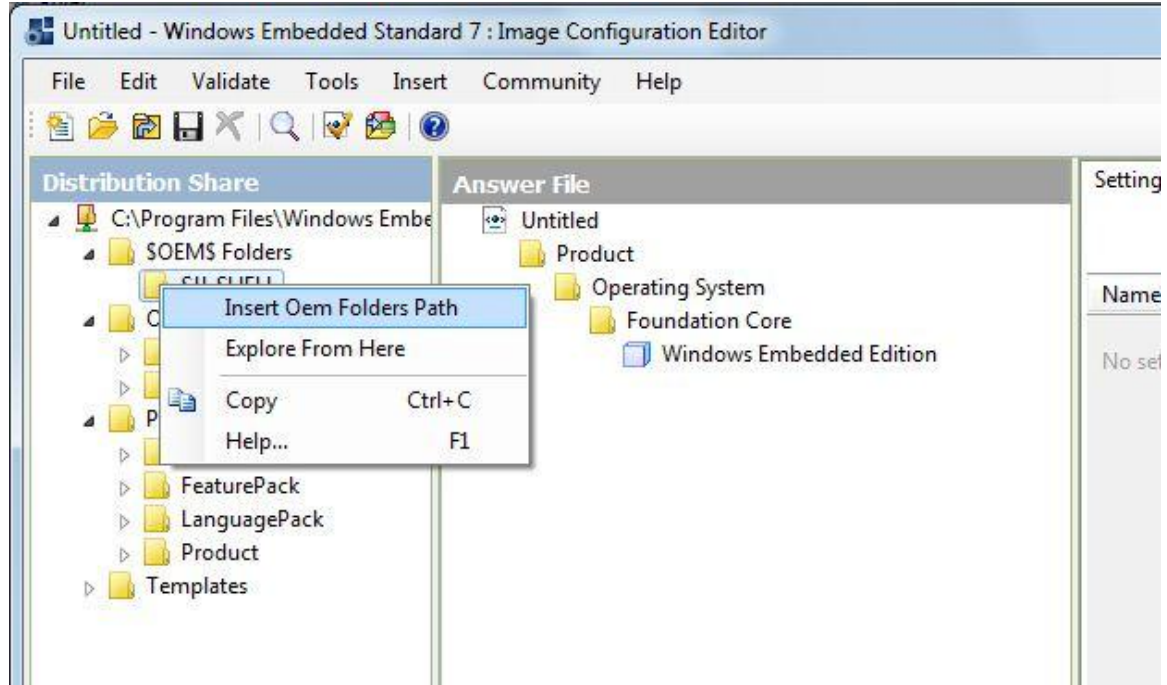

Figure 5-5 - Insert SJJ_SHELL \$OEM\$ Folders into Answer File
- Right-click on the SJJ_SHELL folder and choose “Insert Oem Folders Path”, Figure 5-5. This adds the SJJ Shell to the new build image.